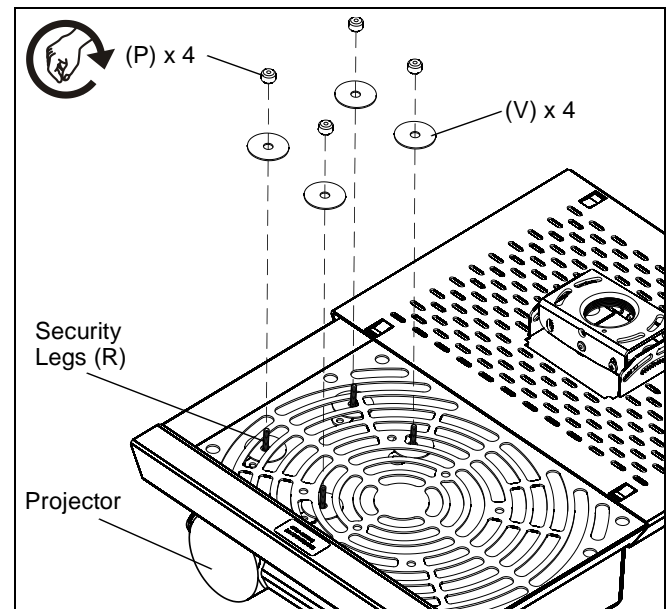

Figure 8
2. Remove the paper backing from the adhesive washers (V) and attach projector to drawer using adhesive washers (V) and thumbnuts (P) over the security legs (R). (See Figure 8)